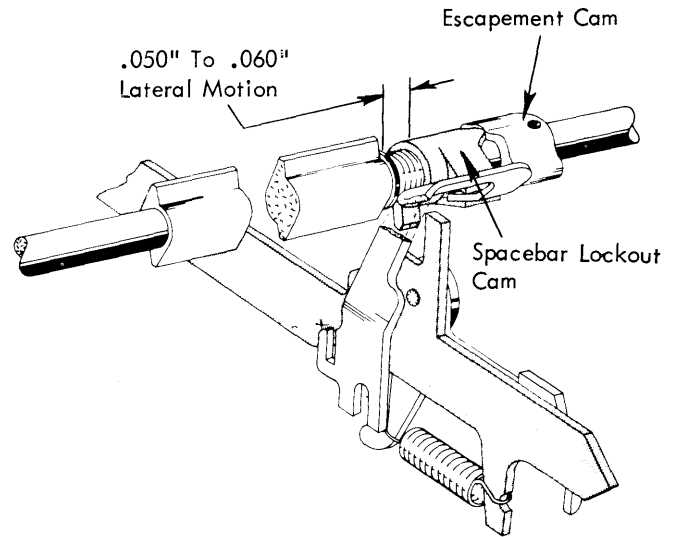

FIGURE 120. Lateral Adjustment Of The Escapement Cam
- a. Lockout Cam - Adjust the escapement cam left or right on the filter shaft so that when the lockout cam is on the high point of the escapement cam the lockout cam will have .050" to .060" lateral motion remaining toward the left (Fig. 120).